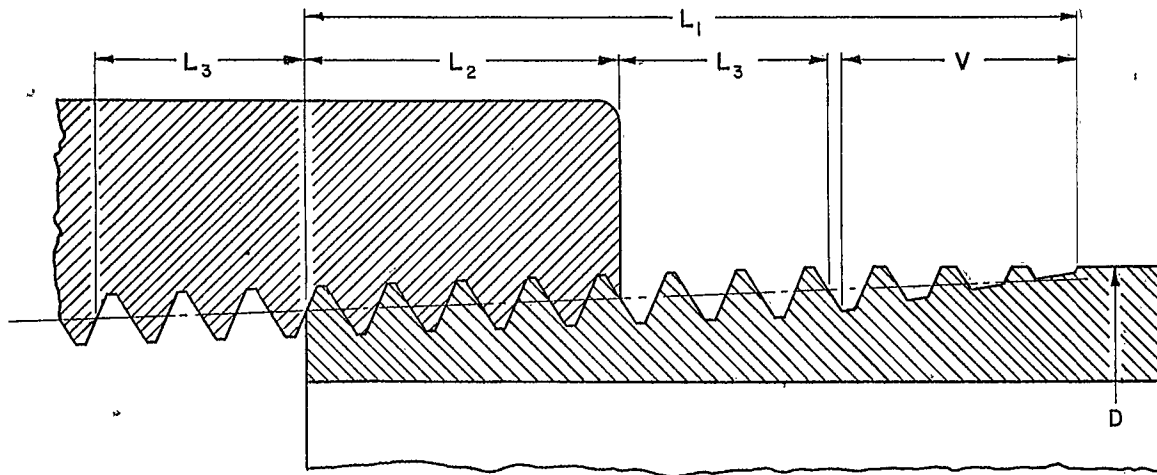

FIG. 1 BASIC DIMENSIONS PIPE THREAD
1.1 This section contains the proper procedures for cutting threads on pipe or conduit using the thread cutters contained in Tool Kit 267. Detail information on the operation of each of the three threaders included in the 267 kit is contained herein. See Paragraphs 3 thru 5. Table 1 contains a composite of thread lengths for pipe sizes 1/8" thru 10". This table should be used in conjunction with Figure 1. The table gives the overall length of thread which should be cut, L1. It gives the thread length, L2, which is the handtight engagement of the pipe; and thread length, L3, which is the length for the wrench tight engagement.
4.5 Check once again that THE TOPS OF THE FOUR TAPER PINS ARE FLUSH WITH THE TOP OF THE DIE HEAD. Using the handle provided, begin cutting the thread. The die head will ratchet in either direction. To change the direction of the ratchet, pull out the knurled button on the die head. Rotate the button 1/2 a turn and release. When cutting, use cutting oil liberally. Cut the length of thread for the particular size pipe as specified in Table 1 Column 4. (This is the L1 dimension shown in Figure 1).
5.5 Check once again that THE TOPS OF THE FIVE TAPER PINS ARE FLUSH WITH THE TOP OF THE DIE HEAD. Using the ratchet and handle, begin cutting the thread. Use cutting oil liberally. Cut the length of thread for the particular size pipe as specified in Table 1 Column 4, (this is the L1 dimension shown in Figure 1.)